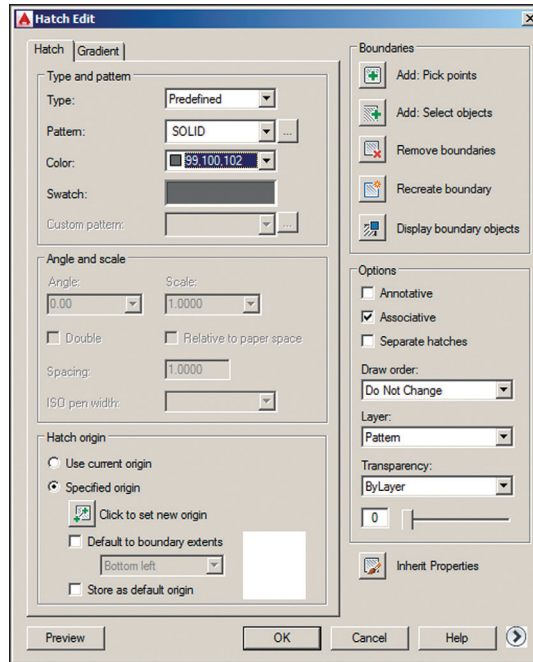

FIGURE 8.10 Hatch Edit dialog box
1. Type HATCHEDIT and press Enter. Select the solid hatch in the outer portion of the rotor. The Hatch Edit dialog box appears (see Figure 8.10).